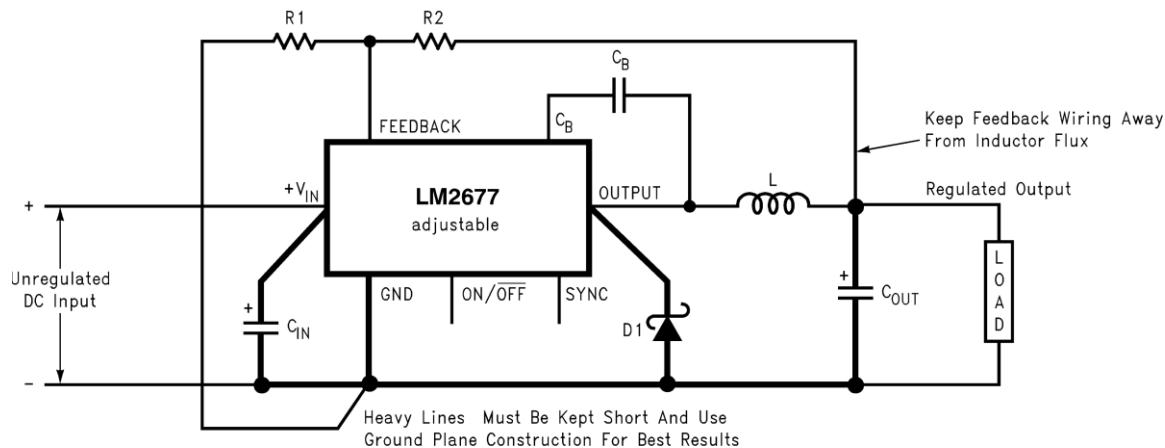

Figure 20. Basic Circuit For Adjustable Output Voltage Applications
Step 1: Select an LM2677S-ADJ to set the output voltage to 14.9 V that chooses between two required resistors (R1 and R2 in Figure 20). For the adjustable device, the output voltage is set by Equation 1.